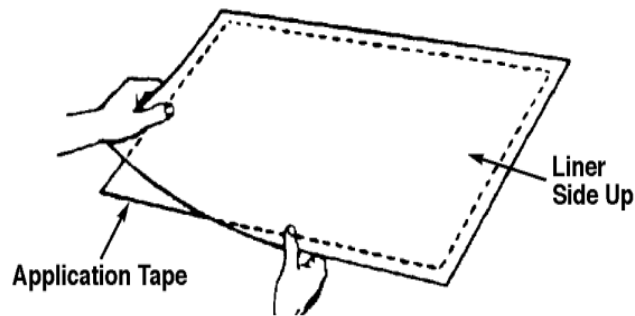

Figure 3. Align the Graphic Face Down
- Align the graphic face-down on the application tape adhesive. See Figure 3.